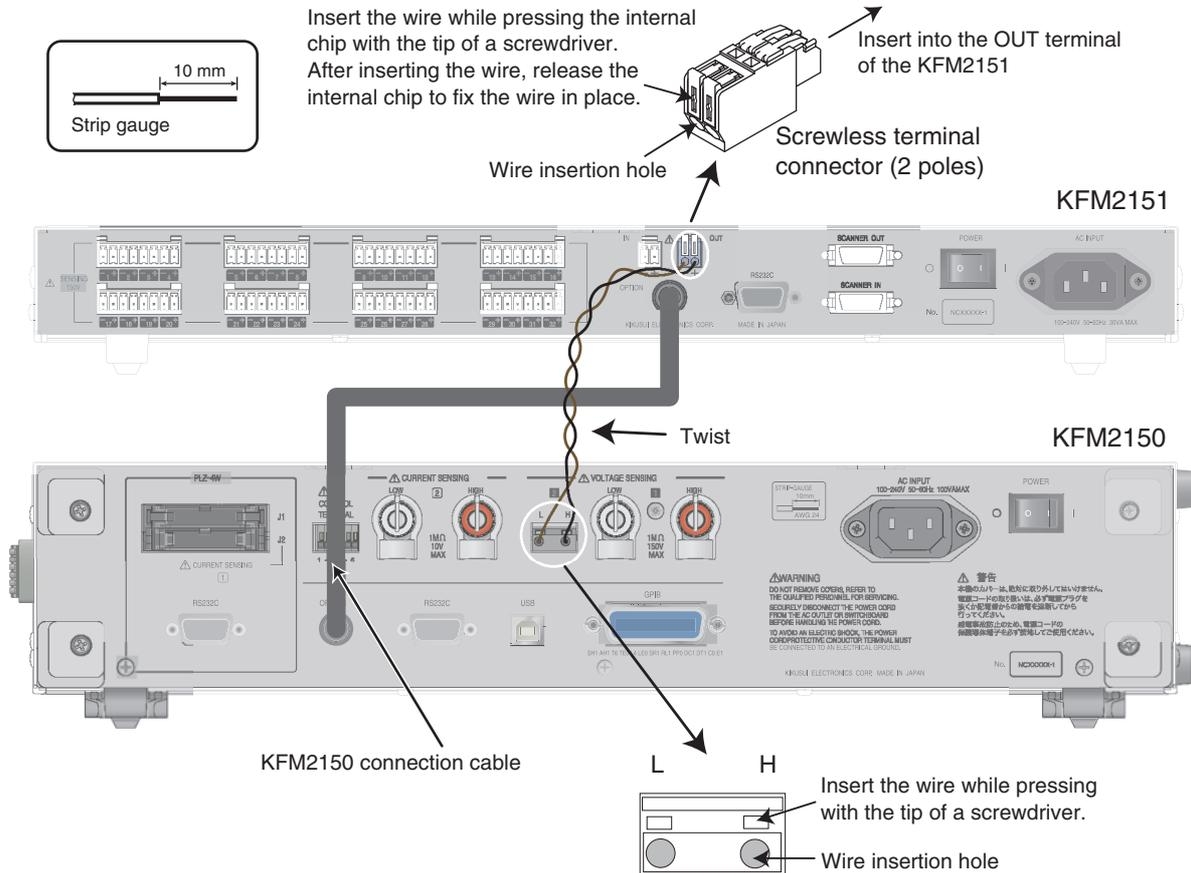

Fig. 2-15 Connecting the KFM2151 and KFM2150
Use AWG24 wires. Remove 10 mm of the covering from the wire end. Using the strip gauge shown in Fig. 2-15 will ensure proper work.
- 2 Using a screwdriver, insert the wire into the screwless terminal connector (2 poles) provided as shown in Fig. 2-15.
- 5 Connect the other end of the wires to the VOLTAGE SENSING terminal (channel 2) of the KFM2150 as shown in Fig. 2-15.